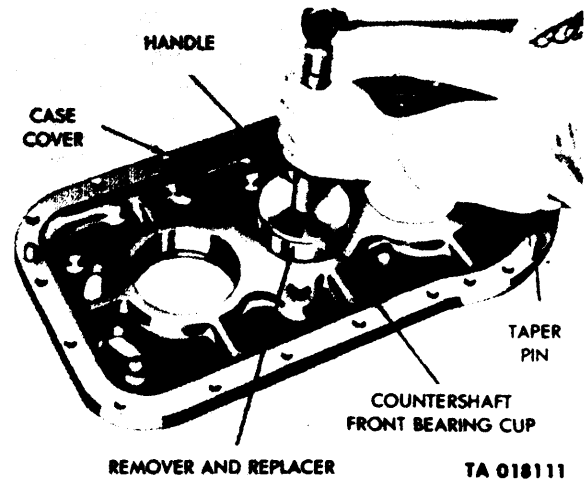

Figure 4-18. Remover and Replacer with Handle.
(3) Remove snapping and press countershaft front bearing cup from the front cover using a suitable remover and replacer. (See fig. 4-18.)